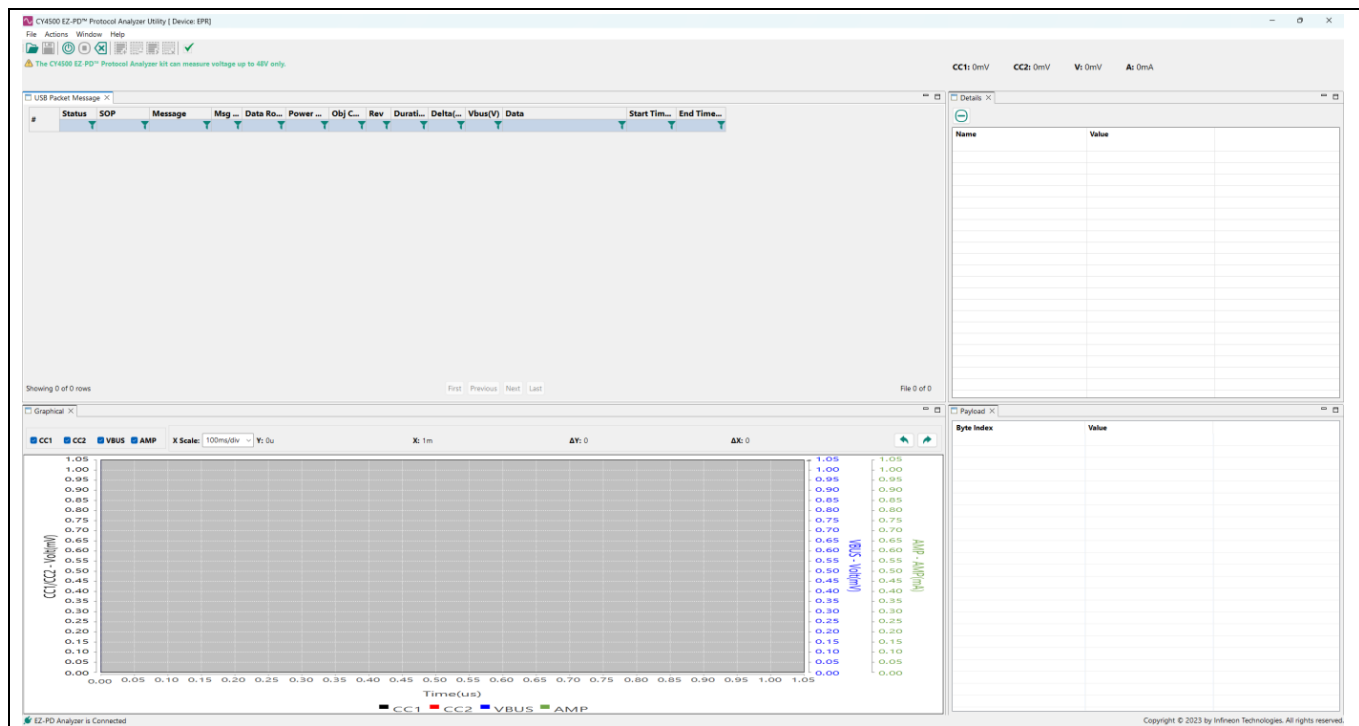

Figure 12 EZ-PD™ Analyzer Utility start-up page
- On the host PC, launch the EZ-PD™ Analyzer Utility from **Start > All Programs > Infineon EZ-PD™ Analyzer Utility**. The EZ-PD™ Analyzer Utility's start-up page looks similar to the image shown in Figure 12.
The Start capturing icon then changes to the **Stop Capturing** icon  once the capturing starts. Alternatively, you can also start capturing data by clicking on **Actions > Start Capturing** from the menu bar. The status bar at the bottom of the utility window shows the message “started capturing” (similar to the status bar at the bottom of Figure 12).